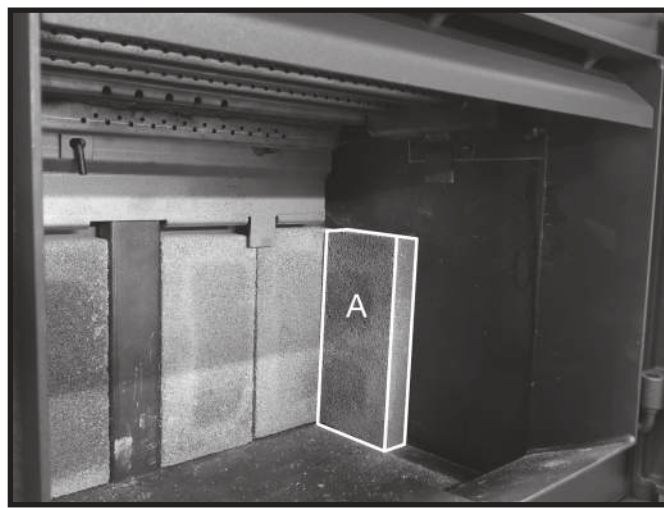

Figure 18: 1st side wall brick in place.
4. For the side walls: Stand an "A" firebrick against the side wall and up against the rear wall firebrick (Figure 18).